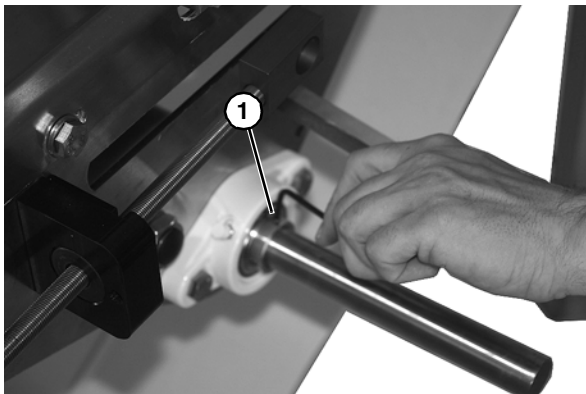

Figure 89
6. Loosen bearing set screw (Figure 89, item 1).